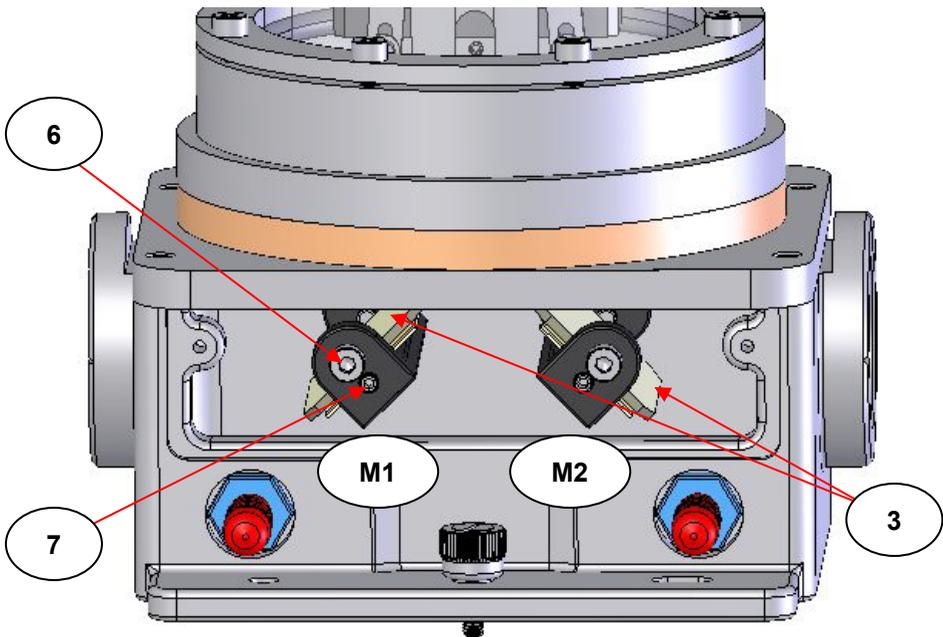

Fig 6. Cyclone™ Gas Cell Optical Unit with Cover Plate Removed
The transfer optical unit (1) is a simple system of two mirrors to deflect the source beam into and collect from the gas cell, and then to deflect it to the detector. Fig 6. shows the optical unit (1) with cover plate (4) removed and the internal mirrors (3) on their adjustable mirror carriage assemblies (M1 and M2). The mirror carriage assemblies have two screw fixings. The M4 x 5mm cap head screw (6) is used to rotate the mirror (3) surface. The M4 x 12mm grubscrew with cone point (7) is used to tilt the mirror (3) surface.
For an alignment procedure the actual configuration of the build of Cyclone™ gas cell for the infrared beam direction through the sample compartment determines which mirror carriage assembly (M1 or M2) becomes the output mirror (3). Looking from the front of the spectrometer the source of light to detector can pass from a left to right (LR) or right to left (RL) direction. From Fig 6. for use in a spectrometer with LR beam direction, M2 becomes the output mirror (3). For a RL beam direction M1 becomes the output mirror (3).